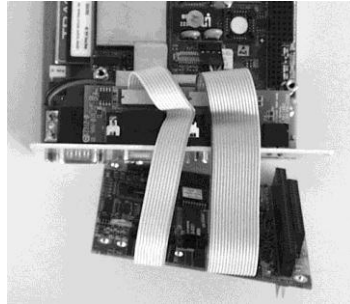

Fig. 2.5.5
- Please, put the profibus card in front of the front panel (Fig. 2.5.5).